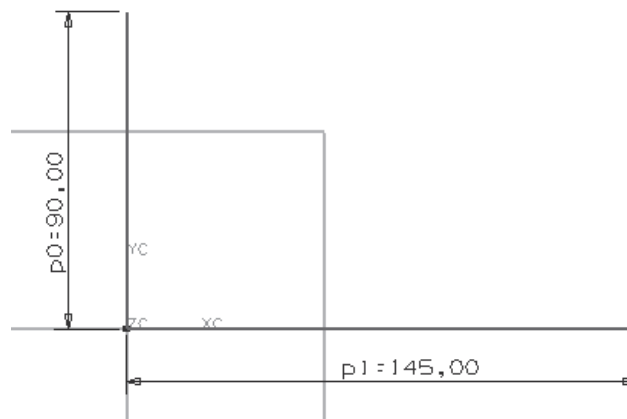

Figure 4-68 Open sketch for the base feature
- Create the base feature of the model on **FIXED_DATUM_PLANE (1)**, refer to Figures 4-68 and 4-69.
4. Invoke the sketching environment using **FIXED_DATUM_PLANE (1)** and draw the open sketch similar to the one shown in Figure 4-68.